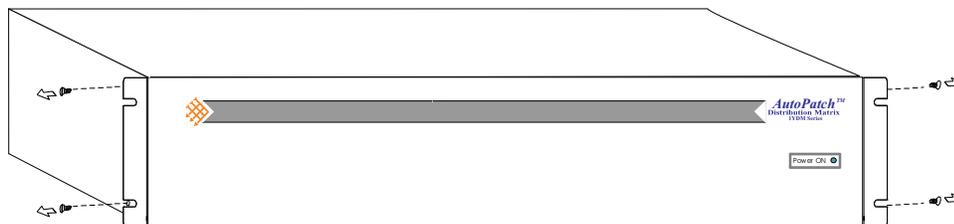

figure 4.11 Removing a blank front panel
1. Remove the blank front panel by removing the two screws furthest forward on each side of the enclosure (a total of four screws) and tilting the panel forward. See figure 4.11. You will need a .25 inch open end wrench to remove the nuts from the screws inside the enclosure.